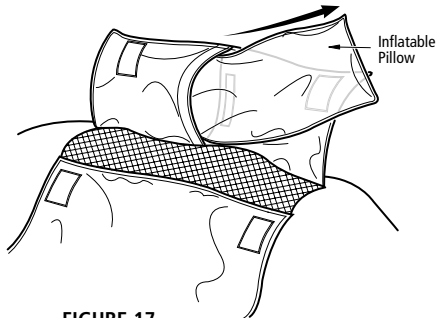

FIGURE 17
- d) Remove the inflatable pillow from the suit (see fig. 17).